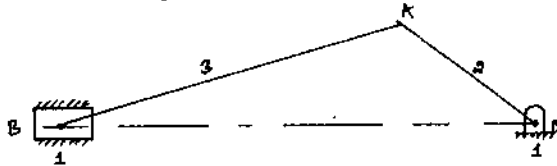

Fig. Q4 (c)
c. In a slider crank mechanism shown in Fig. Q4 (c) the crank OA = 300 mm and connecting rod AB = 1200 mm the crank OA is turned 30° from inner dead centre. Locate all the instantaneous centres. If the crank rotates at 15 rad/sec clockwise, find i) velocity of slider B and ii) Angular velocity of connecting rod AB. (10 Marks)